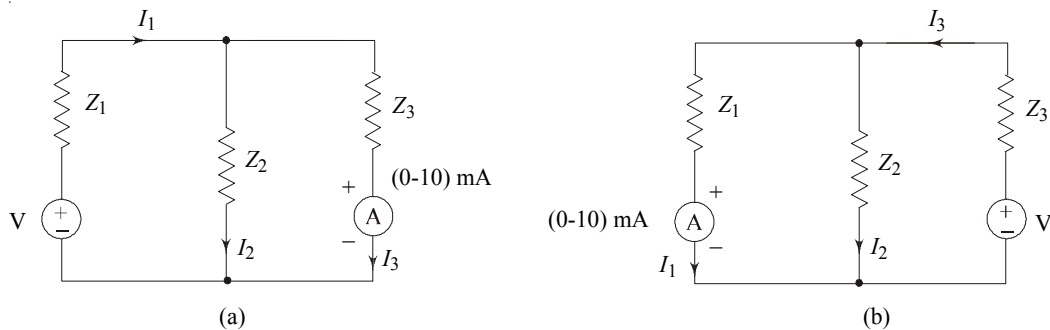

Fig. 1.24
1. Connect the circuit as shown in the circuit diagram [Fig.1.24(a)].
2. Switch on the supply [say  $V_x = 1$  Volt (DC)] and note down the corresponding ammeter readings.
3. Interchange the position of ammeter and voltmeter as shown in Fig. 1.24(b).
5. Verify the reciprocity theorem by equating the voltage to current ratio of Fig. 1.24 (a) with voltage to current ratio of Fig. 1.24(b).